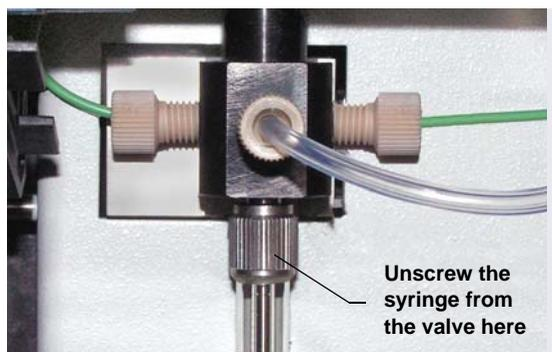

Figure 5-13. *Removing the Syringe from the Syringe Valve*
5. Unscrew the syringe from the syringe valve (see Figure 5-13) and remove the syringe.